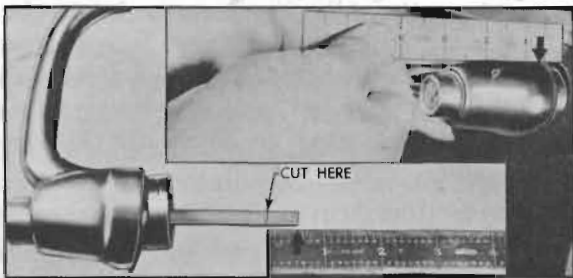

Figure 13-7—Measuring and Cutting Push Button Shaft
8. Still holding the handle in its normal position on door and so that the shaft is just contacting the lock trip lever, measure the distance between the door outer panel and the near edge of lock handle. See figure 13-7.